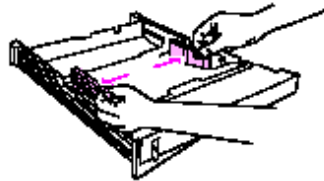

Figure 18. Moving the Side Width Guides
4. Move the side width guides outward to match the paper size as shown in Figure 18.